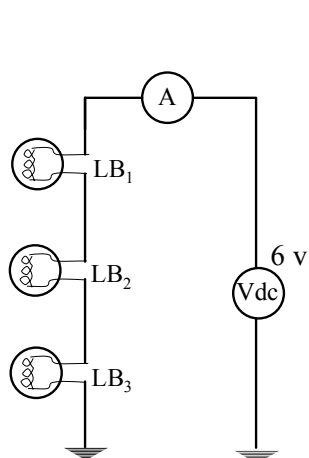

Figure 2.3.15. Series light bulb circuit.
**Light bulb series circuits.** Build the light bulb circuit of Figure 2.3.14. Note the current and the bulb brightness and then, one at a time, wire in two more bulbs, as in Figure 2.3.15. You should have noticed that as each light bulb was added, the resistance of the circuit increases so the current must decrease, and therefore the bulbs become dimmer with each additional bulb. Also note that if one light bulb were to burn out, the circuit is broken and all of the bulbs will turn off.